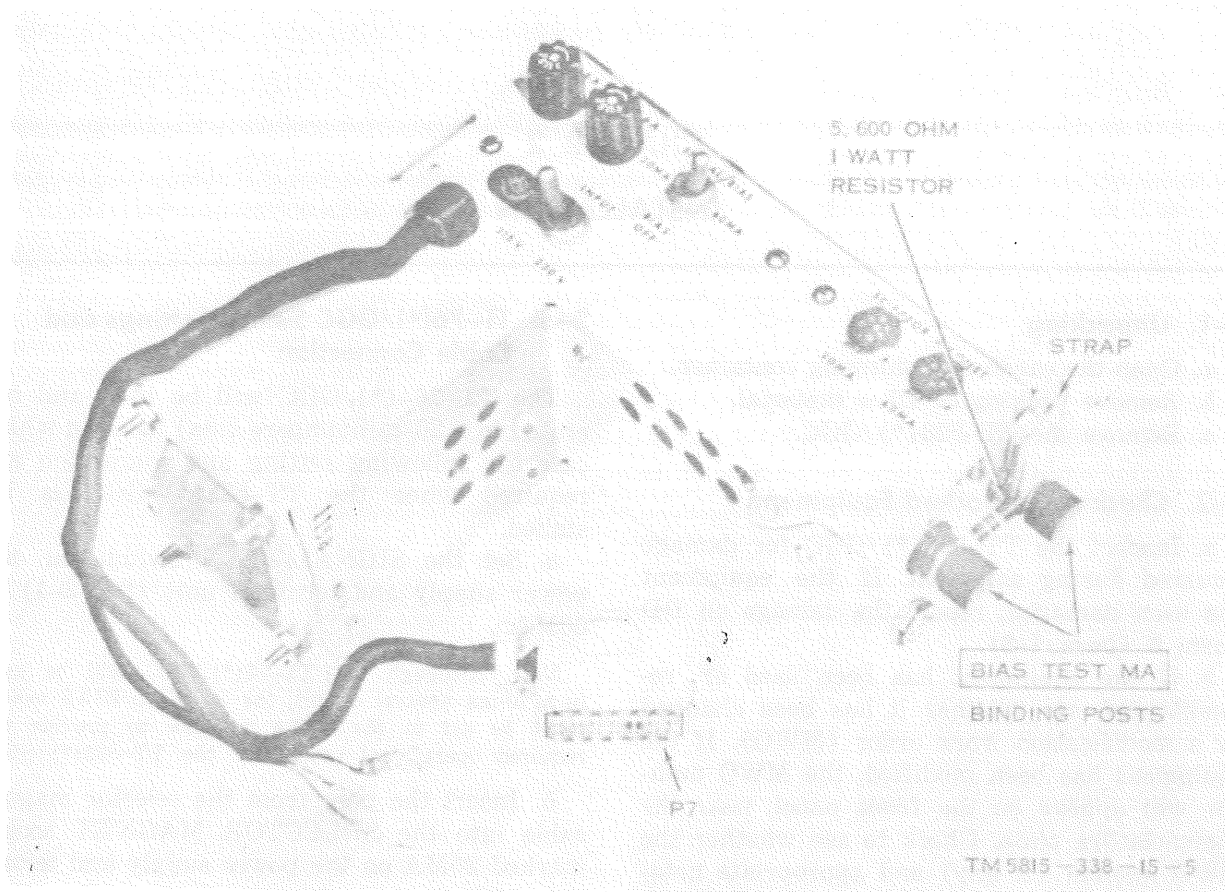

Figure 2-1. TT-76(*)/GGC power supply and terminal unit.
- c. Connect a 5,600-ohm, ± 10 percent, 1-watt resistor across the BIAS TEST MA terminals (fig. 2-1).
- a. Set the SIGNAL/BIAS switch on the power supply and terminal unit (fig. 2-1) to 60MA.